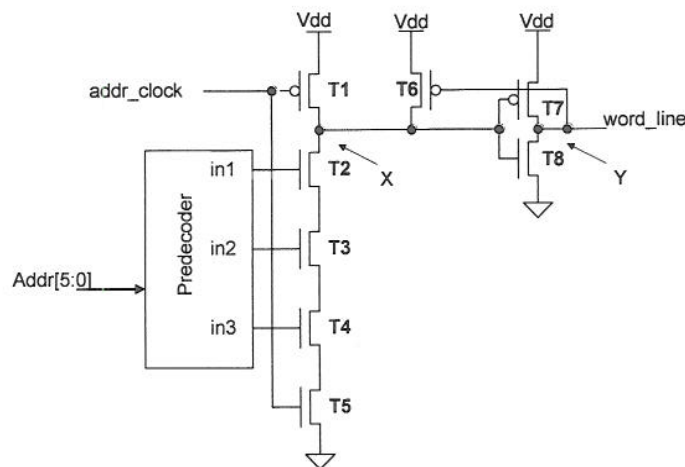

Figure 2.1
2. *Figure 2.1* shows part of an address decoder circuit for a CMOS memory chip. T1 and T6 are strong and weak transistors respectively when compared with the pull-down transistors T2-T5. The signals $\text{addr}[5:0]$ forms the 6-bit row address of a memory array.
d) Design the layout of the decoder circuit shown in *Figure 2.1* (including that for your predecoder design) in the form of symbolic layout or stick diagram.